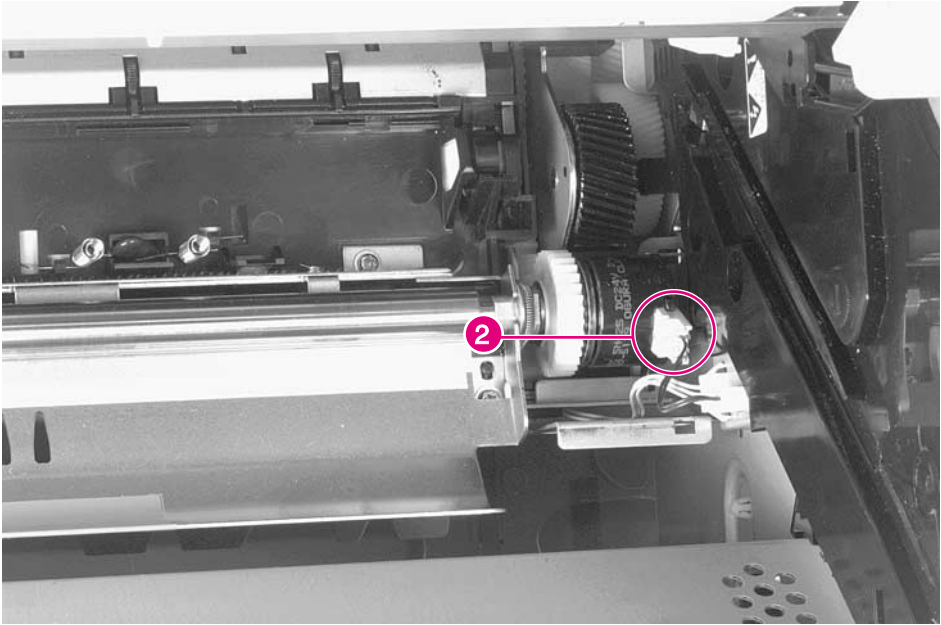

Figure 6-54 **Registration Assembly (2 of 3)**
- 5 Unplug the clutch cable from the clutch on the right end of the Registration Assembly (figure 6-54, callout 2).
- Registration Assembly (see figure 6-54 on page 326)